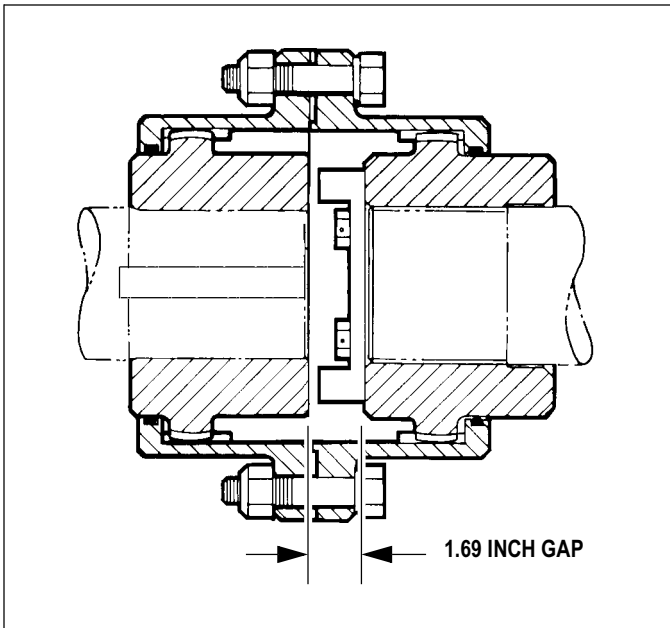

Figure 4-4. Motor Coupling Gap
3. Using the alignment screws, position the hoist motor on the motor base so the space between the coupling hubs is 1.69. See Figure 4-4.